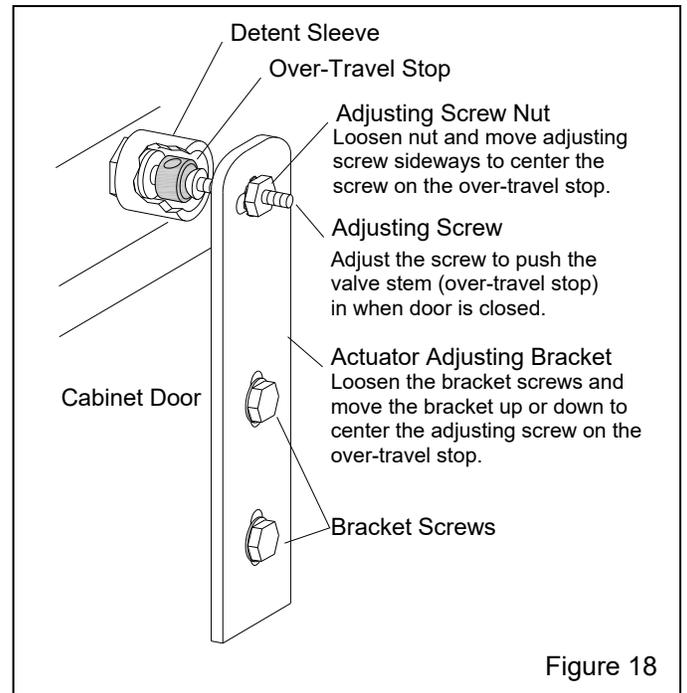

Figure 18
**5.4 Door Interlocks – Figure 18**